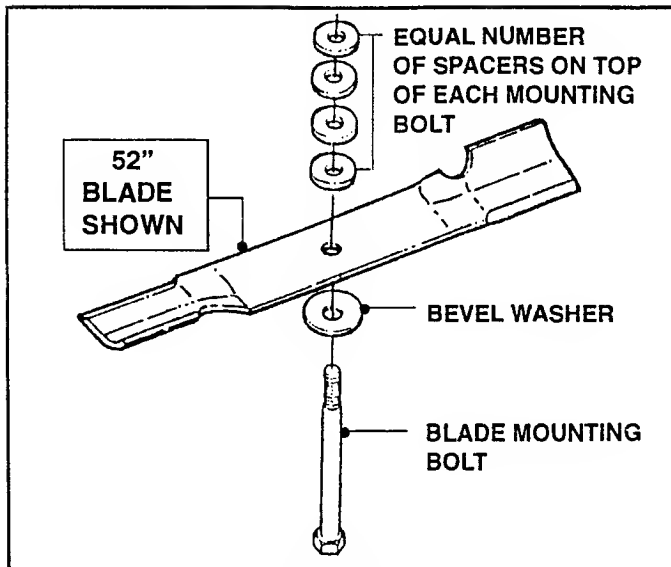

FIGURE 9.3
- A. Insert Blade Mounting Bolt through Bevel Washer and into Blade. Place Blade Spacers over Bolt. Make certain each Blade is installed with the same amount of Spacers as removed. See Figure 9.3.
- D. Remove Blade Bolt, Beveled Washer, Blade and any Blade Spacers. Refer to Figure 9.3.
- E. Remove the six (6) 3/8 - 16 Hex Flange Lock Nuts securing the Cutter Housing to the Deck and remove Cutter Assembly.